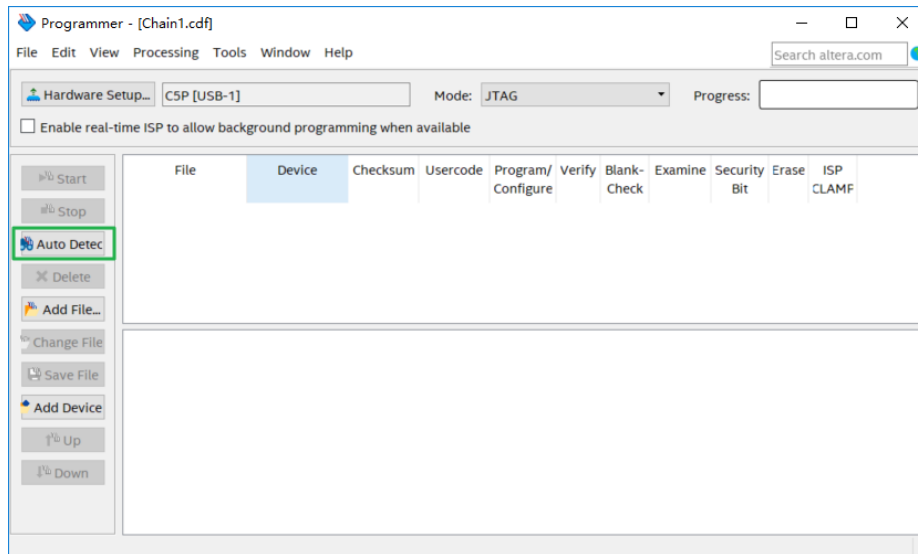

Figure 3-2 Detect FPGA device in JTAG mode
1. Open the Quartus II programmer under Quartus Prime Tools and click “Auto Detect”, as circled in **Figure 3-2**.